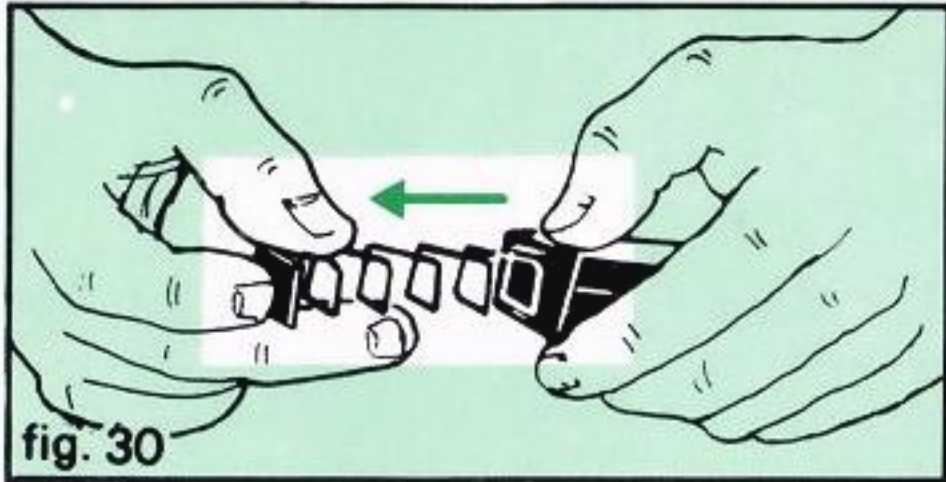

fig. 30
6. Using both hands, ease spring and follower out of housing (fig. 30).